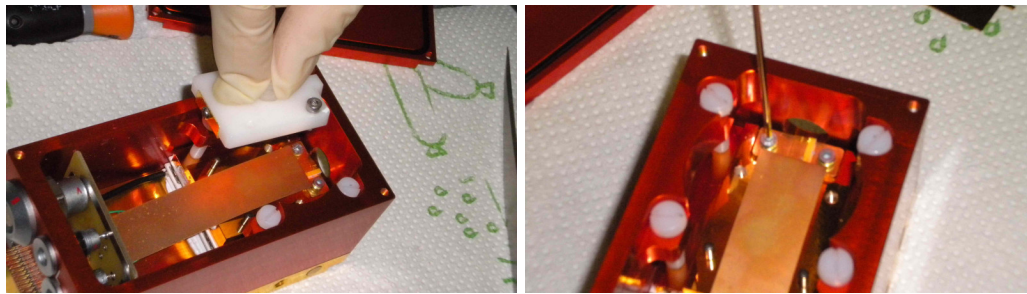

Figure 5.26.: Laser exchange procedure: removing the contact set (left), securing the laser submount (right).
2. remove the two screws (3) holding the contact set (4) using a 2mm hex key
3. remove the contact set using the central PET⁴ knob, as show in figure 5.26.
4. remove the two screws holding the laser submount using a 1.5 mm hex key, as show in figure 5.26